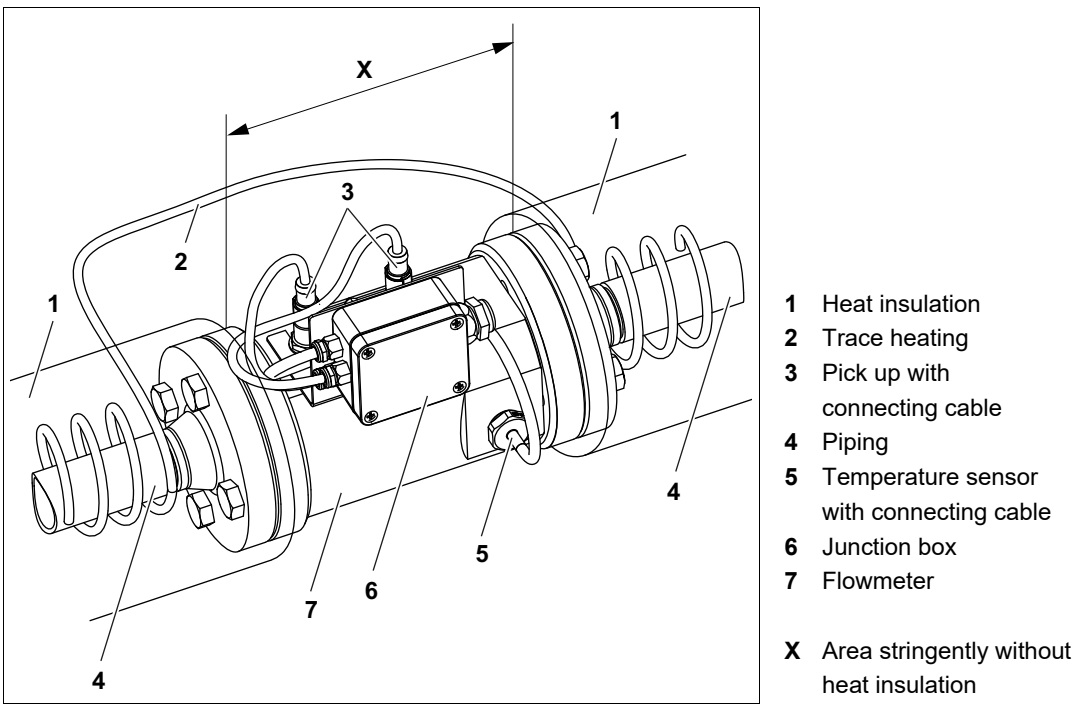

Fig. 2 Flowmeter with trace heating system
- ▶ Ensure that pick up **3**, temperature sensor **5**, junction box **6** and corresponding cables are not heat insulated. The area **X** has to be free of heat insulation, see Fig. 2, page 9.